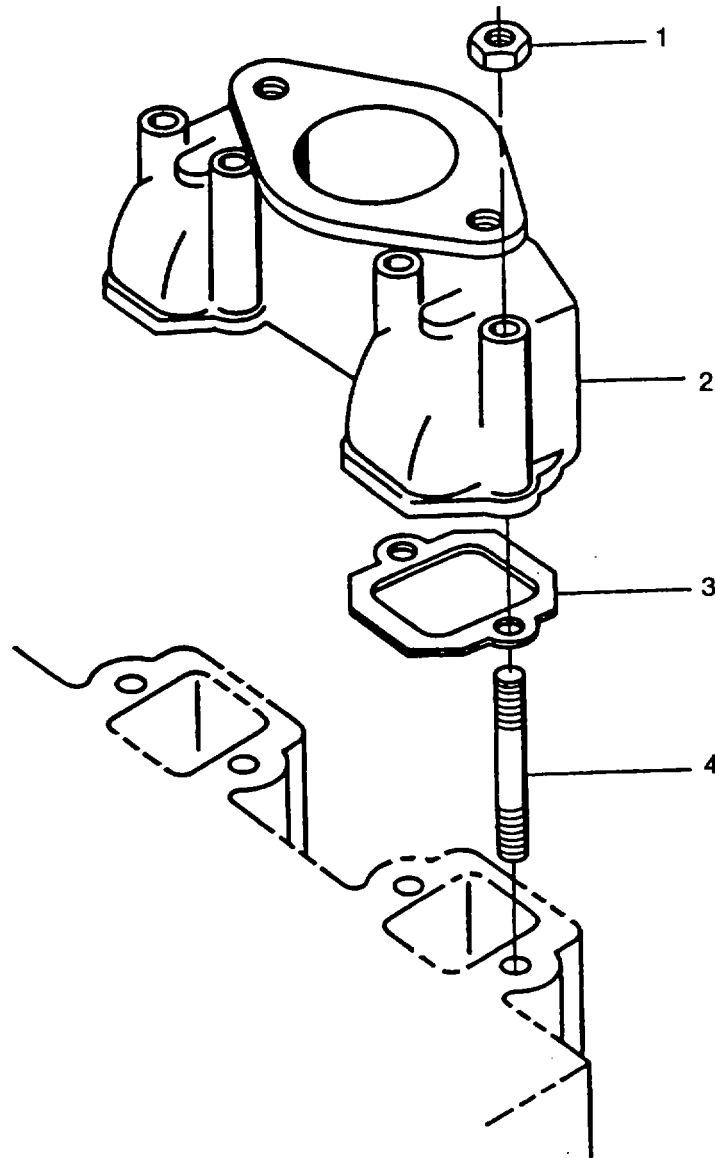

FIGURE 3-3. Exhaust Manifold
- b. Remove four nuts (1, FIGURE 3-3), exhaust manifold (2), and two gaskets (3) from studs (4) . Discard gaskets (3).
- c. If damaged, remove four studs (4).
- c. If removed, install four studs (4, FIGURE 3-3) in cylinder head.
- d. Install two new gaskets (3), manifold (2), and four nuts (1). Tighten nuts to 78 in-lbs (8.8 Nm).